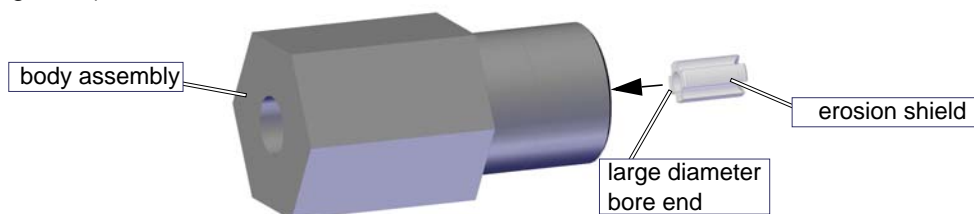

Figure 13: Insert the erosion shield into the body assembly
6. Install the new erosion shield into the body assembly, inserting the large diameter bore end in first (Figure13).
7. Apply a thin film of Extreme Pressure Lube to the outside diameter of the tapered seat (Figure13).